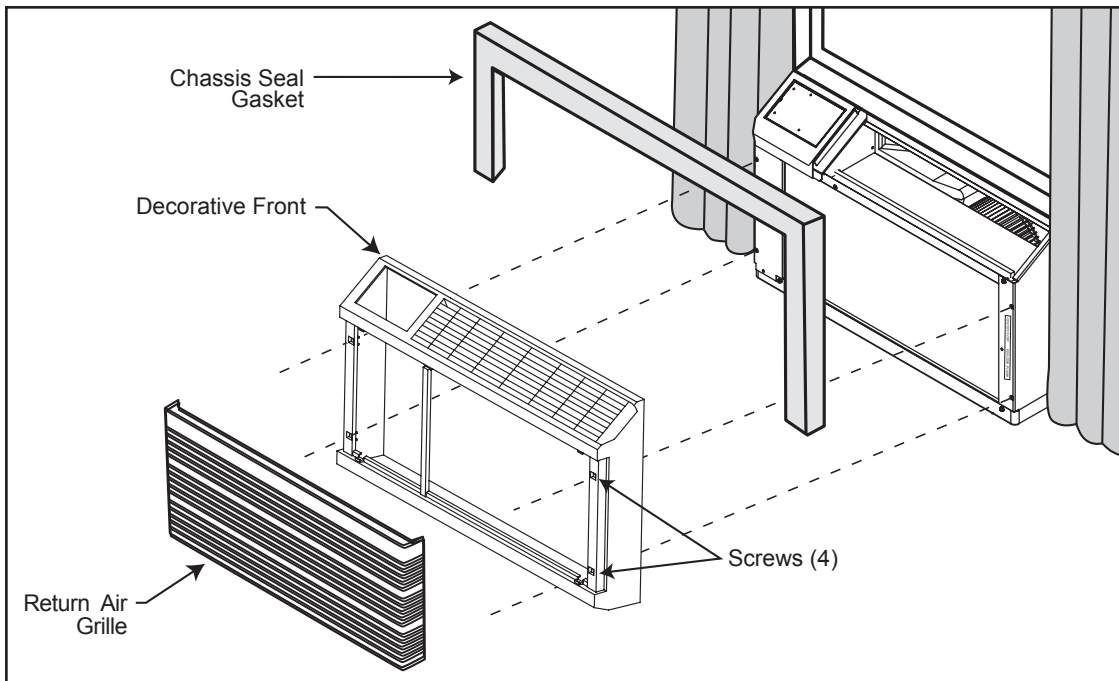

Figure 11
- Check the anchor screws. There should be four (4) in the WSC SLEEVE (two in each side).
**STEP 5 CHASSIS SEAL GASKET INSTALLATION:** After installing the shell, slide the chassis into the shell stopping approximately 3" from full insertion. Stuff the chassis seal gasket one inch deep between the chassis and the shell (see Figure 11). Make sure the gasket is installed beginning from the lower right side corner and extending over the top and down to the lower left side corner. Then push the chassis all the way into the shell for the remaining distance so that the plastic front meets the front edge of the shell.
**STEP 6** Remove the intake grille from the decorative front frame by grasping it at the upper right and left side corners. Pull out until the grille is released from the upper retaining snaps. Tilt it down toward you, lift up and out of the bottom retaining snaps. Install the decorative front frame in place over the sleeve opening and attach it to the chassis with four sheet metal screws as shown in Figure 11. Replace the intake grille by positioning the bottom of the grille into the bottom retaining snaps. Tilt the front up and away from you. Press in lightly on top, and the grille will position itself into upper retaining snaps.